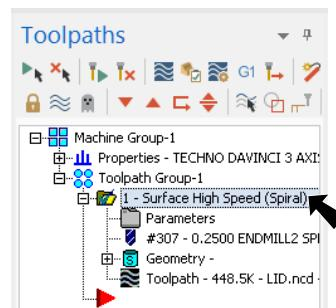

Fig. 69
Step 2. Click **Play**  (R) in VCR bar.
- Step 1. Copy Spiral toolpath in the Toolpaths Manager. To copy, click to select toolpath, Fig. 69.